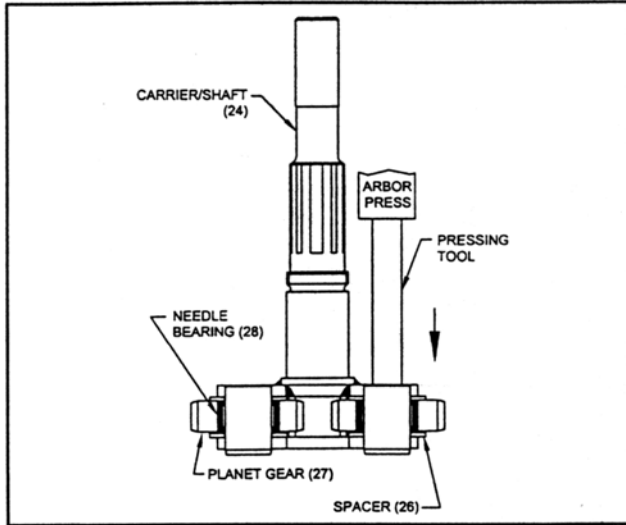

Figure 7. Carrier Shaft Disassembly
Place carrier shaft/gear assembly on arbor press with splined shaft up. With carrier shaft (24) supported, press each planet shaft (25) out opposite the spline shaft. Refer to figure 7.